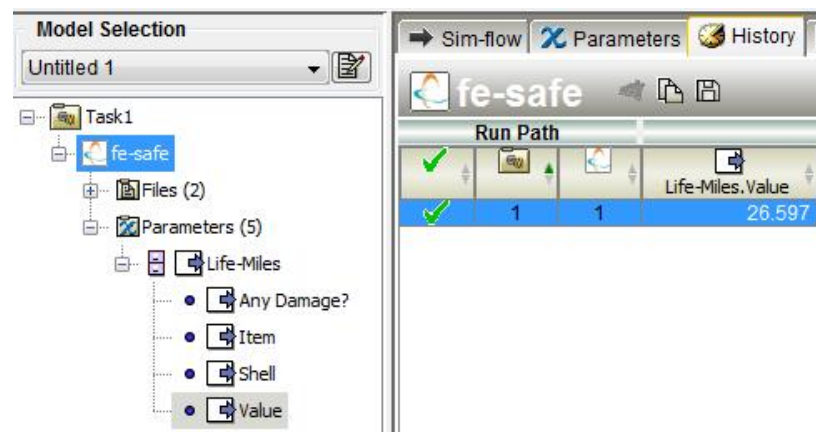

Figure 5-9: Viewing the life result in the history tab
- 2) Expand the Model Selection tree and highlight the Value output as shown in Figure 5-9. Switch to the history tab to see the life result value in Miles. The value is app. 26.6 miles. Alternatively, you could view the result in the Preview Graph window to the right in the Isight Runtime Gateway.